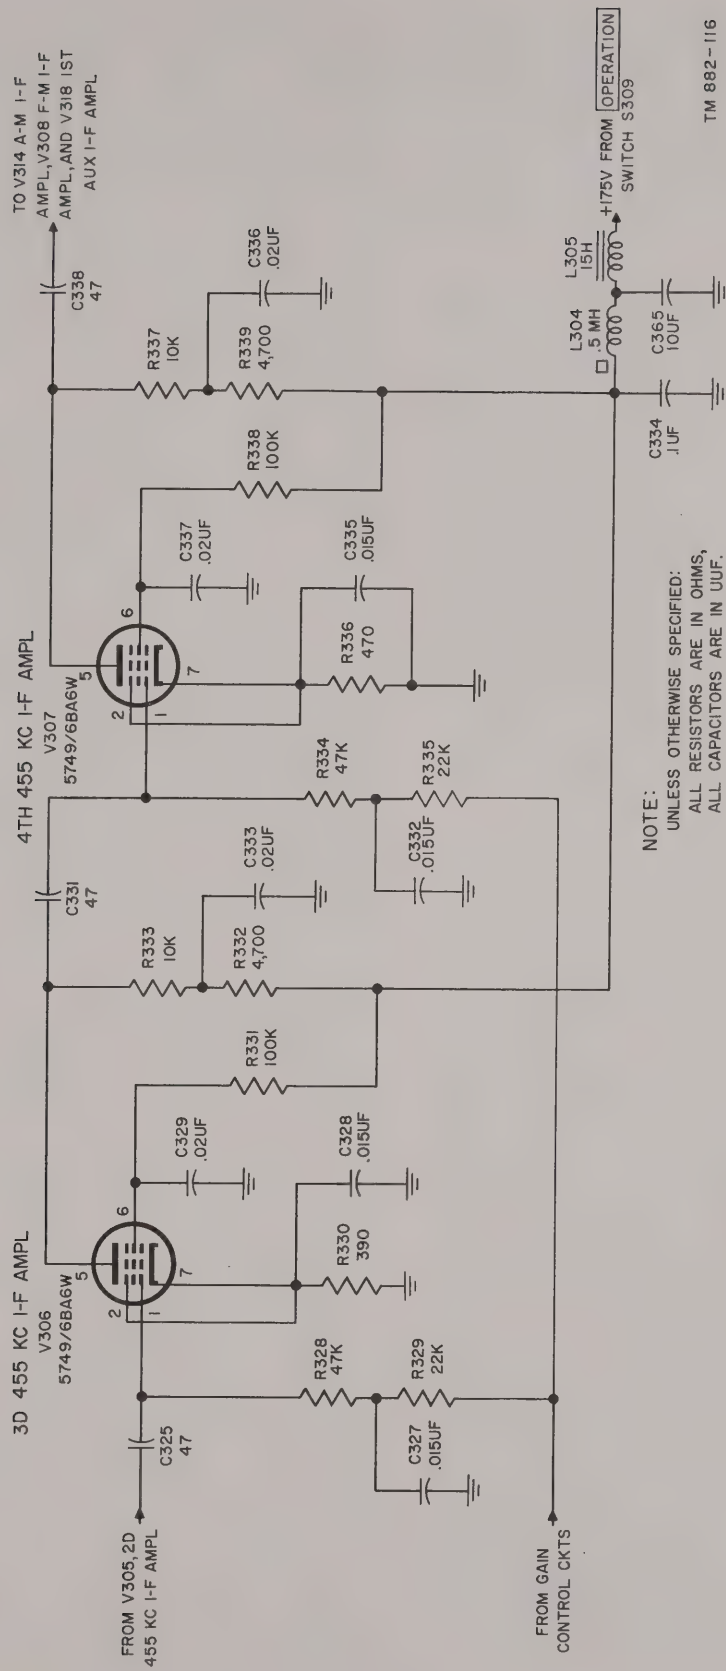

Figure 50. Third and fourth 455-kc i-f amplifiers.
d. Third and Fourth 455-kc I-f Amplifiers. (fig. 50). From V305, the signal passes through the third and fourth 455-kc i-f amplifiers, V306 and V307, to the f-m, a-m, and auxiliary circuits. Coupling capacitors between these stages are C325, C331, and C338. The cathode of V306 is biased and bypassed by R330 and C328, respectively, and the V307 cathode is likewise biased and bypassed by R336 and C335. Grid resistors are R328 for V306 and R334 for V307. The mge-agc decoupling network consists of R329 and C327 for V306, and R335 and C332 for V307.